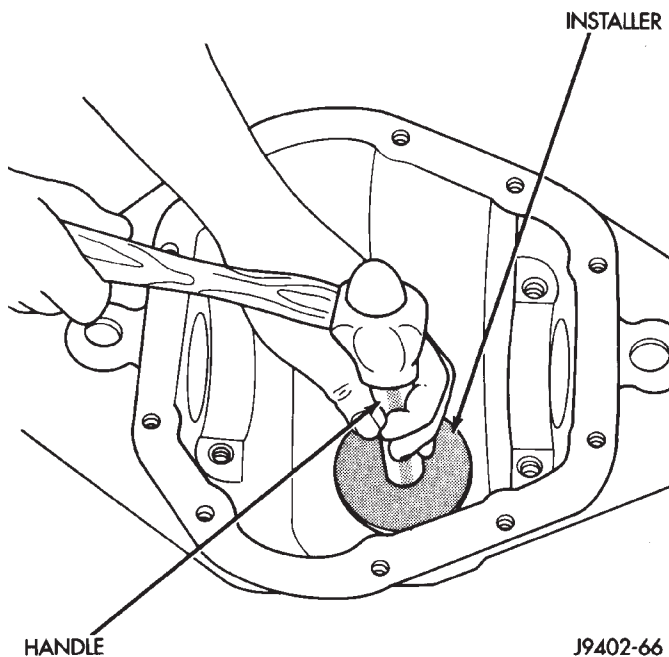

Fig. 30 Pinion Rear Bearing Cup Installation
(1) Install the pinion rear bearing cup with Installer C-4308 and Driver Handle C-4171 (Fig. 30). Ensure cup is correctly seated.